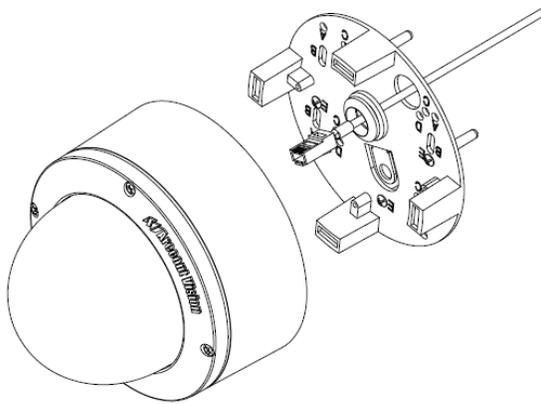

Figure 4
- Align the hole on SurroundVideo® G5 Mini camera with the hole on mounting plate, and install the grommet on camera housing as shown in Figure 4.